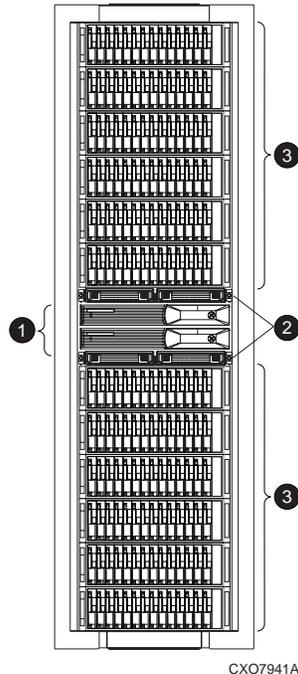

Figure 1 EVA5000 Storage system hardware components
The basic physical components are shown in Figure 1. The disk drives are installed in the disk enclosures, which connect to Fibre Channel (FC) loop switches. The controller pair also connects to the FC loop switches.
The hardware components shown in Figure 1 are discussed in the following sections and in Storage System Hardware Components.